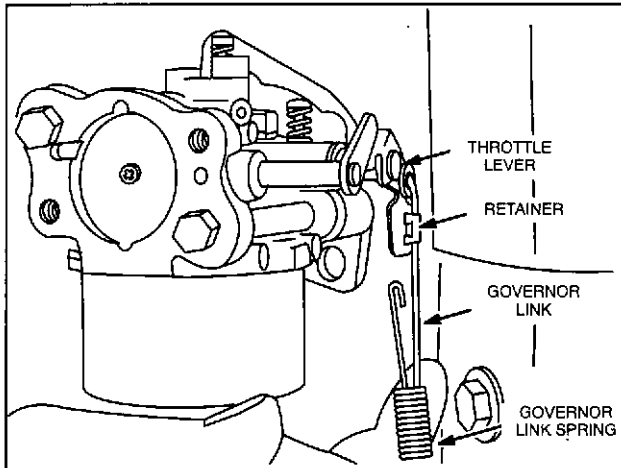

Fig. 82 - Connecting Governor Link
**All models:** Connect governor link to throttle lever and snap retainer over link, Fig. 82. Then, install governor link spring in loop on link retainer.